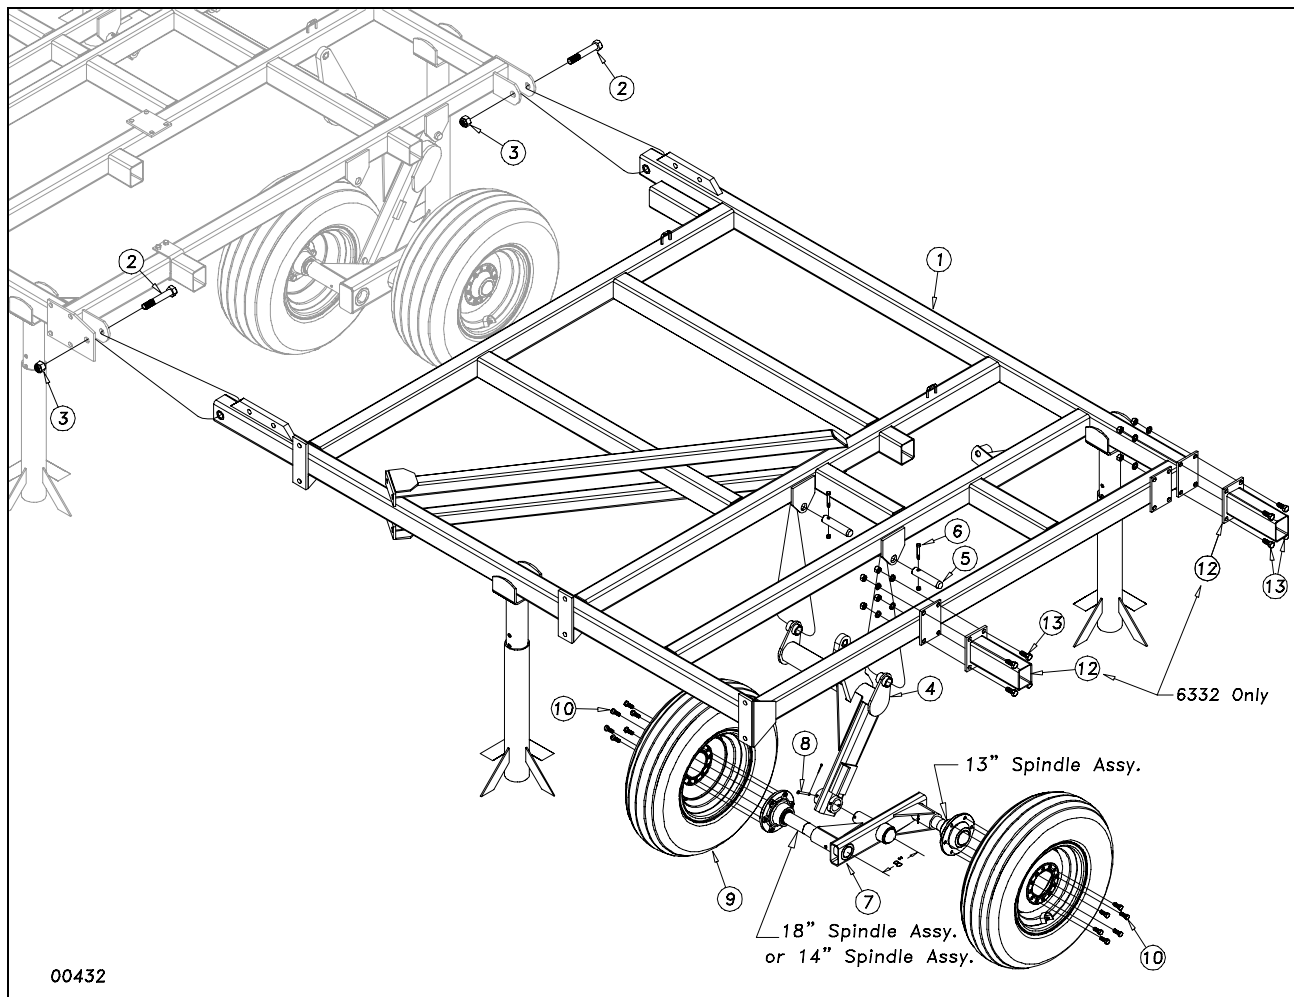

Figure 2
Bolt the inside wing frames (1) Figure 2, to the center frame with two 1 x 6 hex bolts (2) with nylon lock nuts (3). Draw the nuts down tight but **do not torque**.
Install the wing walking beam assembly (7) as shown in Figure 2 with the 14" spindle